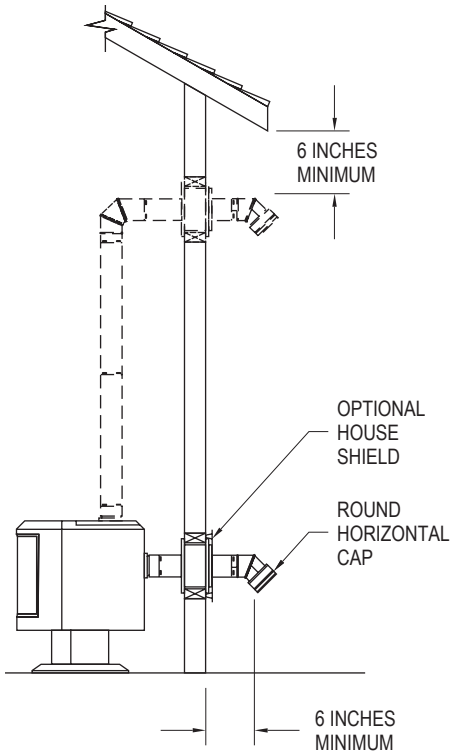

Figure 6
5. If the flue exit is on back of the stove, and a horizontal through-the-wall installation is desired (**Figure 6**):
- B.** Connect the Appliance Adapter to back of stove and attach sufficient pipe to penetrate Wall Thimble and extend at least 6" beyond the exterior wall. You may install the optional House Shield as shown in **Figure 6**. The House Shield is used to protect the exterior wall from vent discharge. Attach a Round Horizontal Cap. The Round Horizontal Cap can be swiveled to be directed away from nearby objects (fence, plants, etc.), but must still be pointing in a generally downward direction.